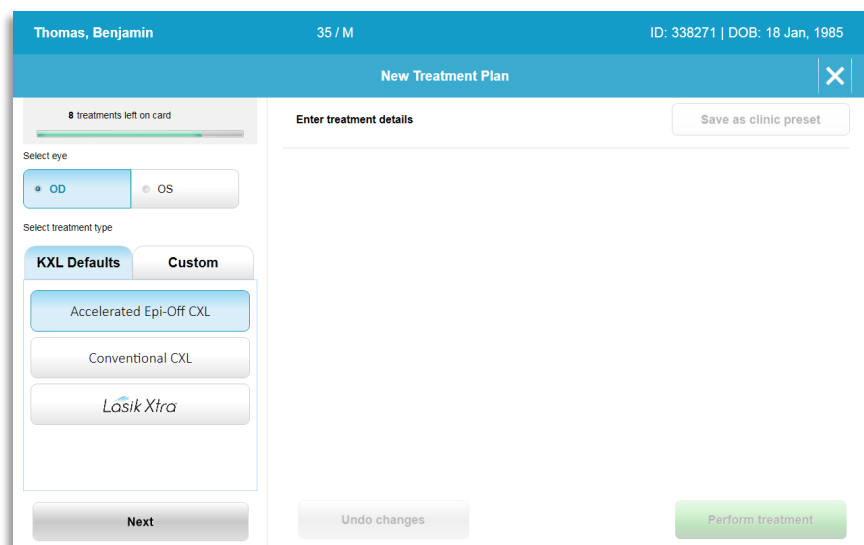

Figure 3-5. Select Eye
- When eye is selected, the field will be outlined in blue as shown in Figure 3-5.
- The System is pre-programmed with 3 KXL Default treatment plans as shown in Figure 3-5: